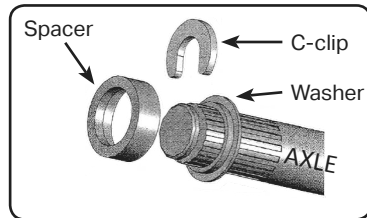

fig. 2
- 7:** Seat the washer onto the face of the coupler, line up the C-clip groove on the axle shaft with the slot on the driver and insert the C-clip between the washer and spacer **(fig. 2)** onto the axle shaft.